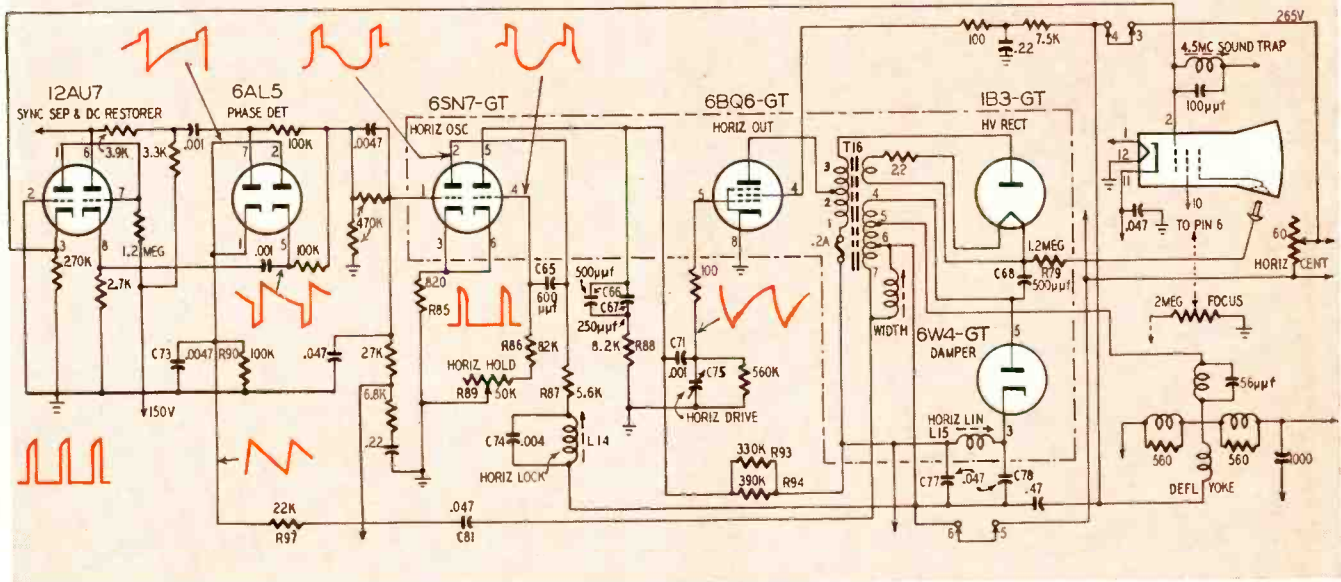

Fig. 1—Schematic diagram of the horizontal section of Sentinel model 438 XD chassis. Waveforms are shown throughout.
When there has been poor linearity from the beginning, that could not be corrected by the vertical linearity control, a small change in value of peaking resistor (R6, Figs. 1, 2) may correct it. Increasing the value of this resistor (25 to 50%), causes stretching at the top of the picture; decreasing the value causes compression.
Other possible defects include: change of resistor values in the charge circuit, or change in the value of charging capacitor; defective vertical output transformer; open capacitor in the decoupling circuit of the output stage (C8, Fig. 1); change of resistor value in either decoupling circuit (R9 or R13, Fig. 1); defective yoke (ferrite core cracked.)
If the fault has been present from the beginning, check the manufacturer's field modifications for the particular model. Some common methods for increasing height include: Boosting B plus with new (or a more efficient type of) low-voltage rectifier tube; using a 6Y6-G instead of a 6K6-GT as the vertical output tube in converted 630 type sets where the filament supply permits this (the 6Y6-G filament takes 1.25 ampere, about three times the current of the 6K6-GT); lowering the value of the fixed resistor in the charge path (R7, Figs. 1, 2) to two-thirds or one-half the original value; changing the two-winding vertical output transformer connections to make it function as an autotransformer (Fig. 5).
8. Keystoning. (Picture becomes narrow at the right or the left side.) Keystoning is caused by a short or partial short in one section of the vertical deflection coil (yoke) or a defective damping resistor (R14, R15, Fig. 1).
Starting with the horizontal phase detector circuit, let us examine the high points of the horizontal section (Fig. 1). Two voltages are fed into the 6AL5 balanced phase detector. They are the incoming signals' horizontal sync pulses and the horizontal reference feedback voltage. These two voltages are compared in phase, and the d.c. voltage developed is applied to the control grid, pin 1 of the 6SN7-GT horizontal oscillator. The d.c. voltage varies the plate resistance of the tube, keeping the oscillator from going out of synchronization.